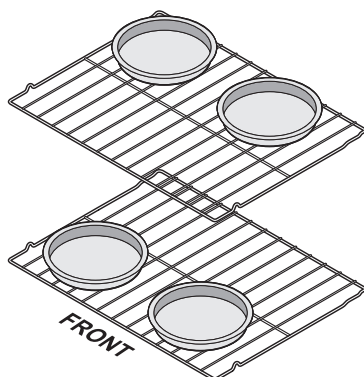

Figure 11: Pan positions two rack baking
- When baking using two oven racks, position cookware as shown in Figure 11.